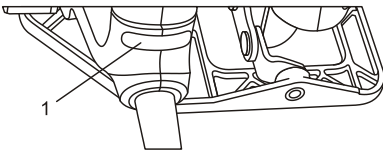

Fig. 8
The live wire indicator (1) will turn ON when the plug is inserted into a "live" 110V receptacle (Fig. 8). If the live wire indicator fails to turn on, this indicates the plug is not inserted into a "live" receptacle.